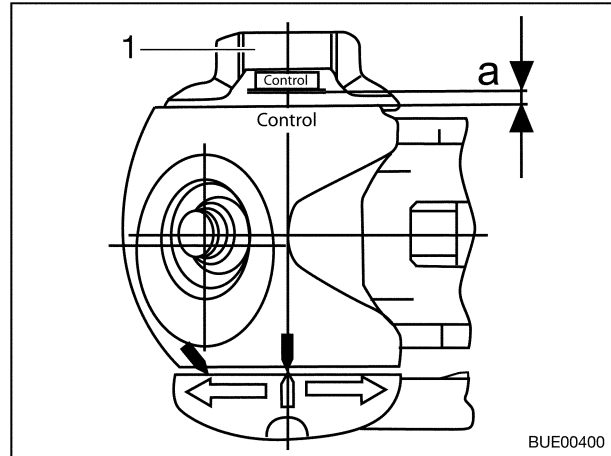

Fig. 91 Friction control
- Turn the hand wheel (Fig. 91,1), until it can be heard and felt that the torque limiting mechanism grates. Turn in a clockwise direction.
- Distance $a > 0$ (Fig. 91):